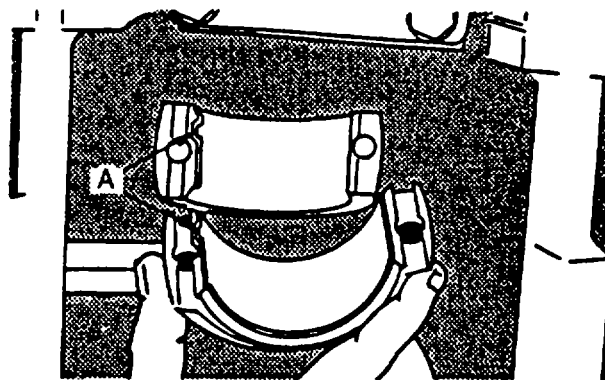

FIGURE 3-170. Installing Connecting Rod Cap
- g. Install cap on connecting rod with tangs (A, FIGURE 3-170) to same side.